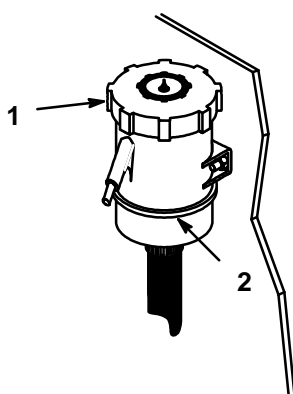

Figure 32
3. Clean around the fluid reservoir (Fig. 32) so level is clearly visible and so dirt cannot fall into the reservoir if fluid is added.
4. When transaxle is cold add oil to "Full Cold" line on reservoir (Fig. 32).